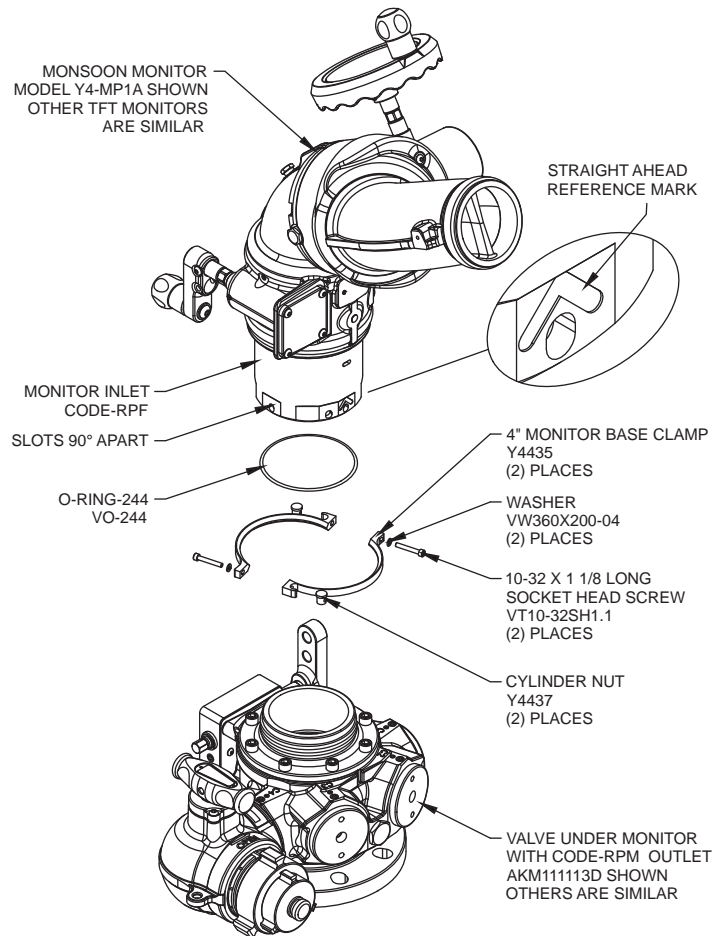

Figure 4.3d
TWO PIECE CLAMP ROTATIONAL LOCK INSTRUCTIONS (without tapped holes, refer to figure 4.3d):
1. Apply blue Loctite to threads of (2) Cylinder Nuts. Assemble Monitor Base Clamp as shown in figure 4.3d and place loosely over Side B Outlet adapter in an orientation that will allow access to the screw heads of the Clamp. Screw monitor onto VUM until threaded joint bottoms out.